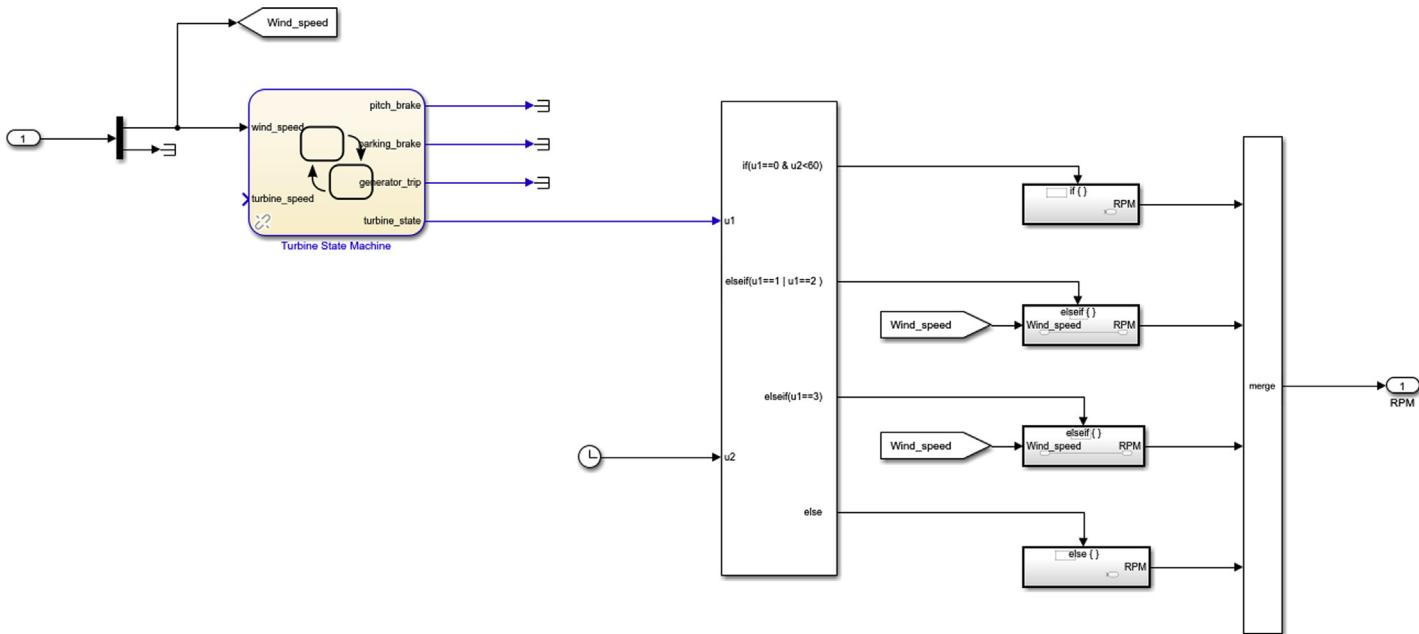

Figure 10.33 Merge block inputs and output.
14. Insert a **Merge** block and set the inputs as 4. Connect the output of each **If action subsystem** to the respective input of the **Merge** block. The output of the Merge block should be connected to the outport named RPM. The changes in this step and the previous one are shown in Fig. 10.33.